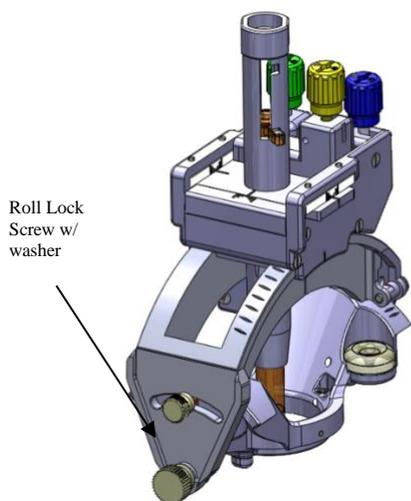

Figure 6: Roll Lock Screw w/ washer
10. Remove the Roll Lock Screw w/ washer from the SMARTFrame® package to pre-mount in SMARTFrame®. Screw in partially to the appropriate location on the SMARTFrame®. See Figure 6. Ensure the Roll Lock Screw w/ washer is not tight. This screw will be tightened later in the procedure.
5. The Roll Lock Screw w/ washer must be tightened after the final roll adjustment is complete. **See Figure 6.** The Roll Lock Screw w/ washer must be loosened, for subsequent roll adjustments.